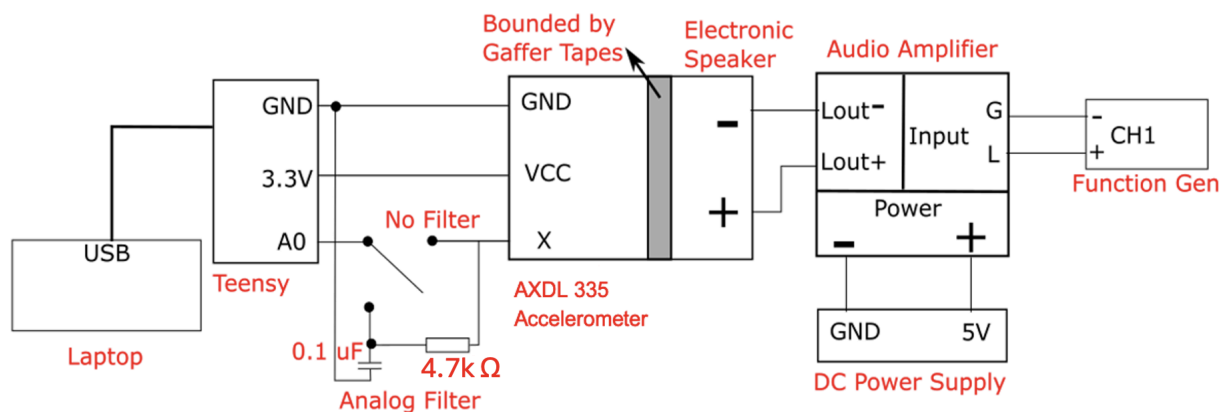
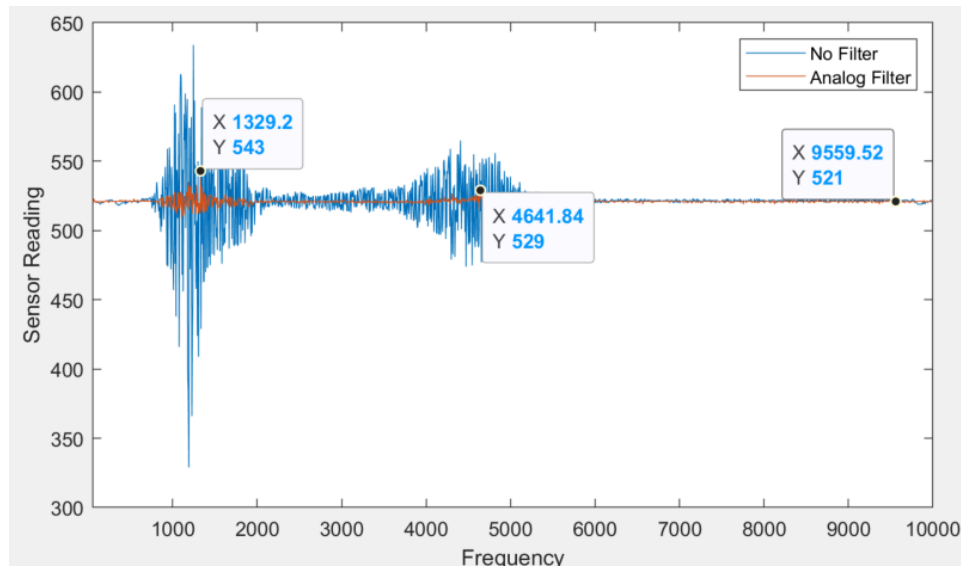

Fig. 0. Connection Diagram
Fig. 3
Now you need to finish the remaining connections as shown in Fig. 0. Basically, you output sine wave signals to your audio amplifier, which drives the speaker and thus change the accelerometer readings acquired by the Teensy 4.0 board. This lab only cares about data of the accelerometer's X axis.
Now you need to insert the RC analog filter between the X axis output and Teensy input port (see the switch in Fig. 0) to get rid of the high-frequency injection signals before they pass through Teensy's ADC. The RC filter has a cut-off frequency around 340 Hz. When it's set up, repeat the same frequency sweep and logging procedure as problem 1 (50 Hz to 10k Hz in 30s). With the new data, you will be able to produce a figure like Fig. 3. Note that you may observe a DC offset between the two traces which is fine.
- Submit a figure similar to Fig. 3 by showing sensor readings both with and without analog filtering simultaneously. Once you complete this figure, please ask the TA to check it off during lab sessions or open hours.
- You also need to clearly label on the figure the resonance points of the analog-filtering data as well as a no-attack point with legends, as shown in Fig. 3.